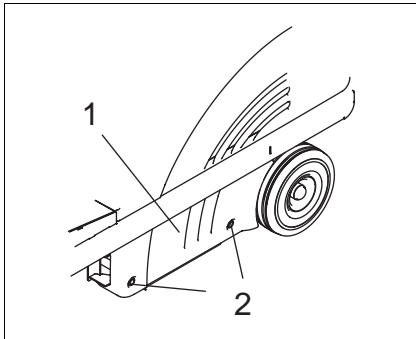

Fig. 10 Remove cover
- Open locks (Fig. 10/2) by enclosed square spanner (counter-clockwise)
- Remove cover (Fig. 10/1)
The side brush is located at the front right of the machine (standard version). Use the lever (Fig. 10/2) to lift and lower the side brush. The side brush is to be lightly inclined in forward and in outward direction. The pivoting area of the side brush arm is limited by stop screws. The side brush is driven by a V-belt. Fitting of a second side brush for specific appliances is possible.